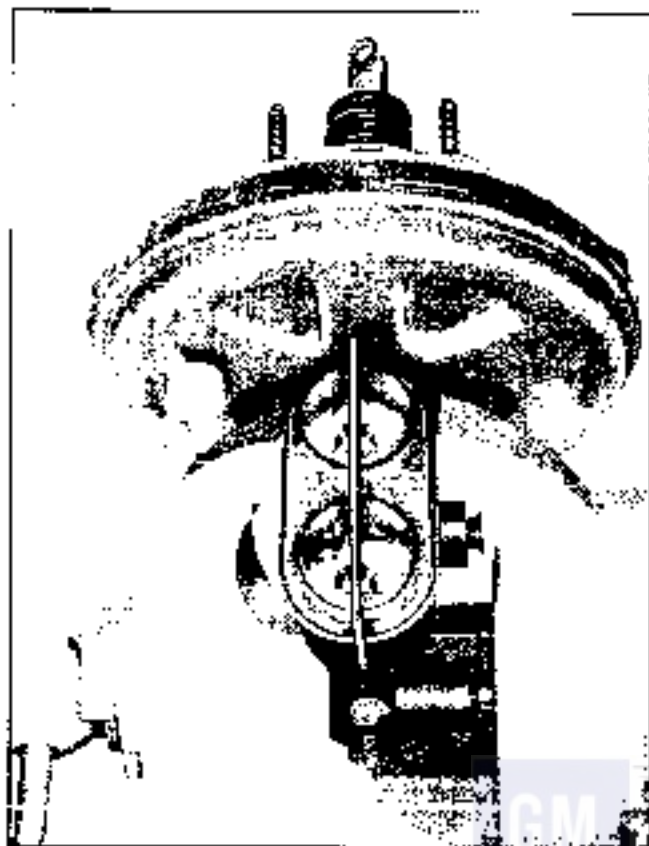

Fig. 5A-4 Brake Unit Mounted in Vise
1. Remove lock ring from power piston by prying from under locking lugs. (Fig. 5A-9)
2. Remove reaction retainer, vacuum cylinder push rod, reaction plate, three reaction levers and air valve spring. (Fig. 5A-10)